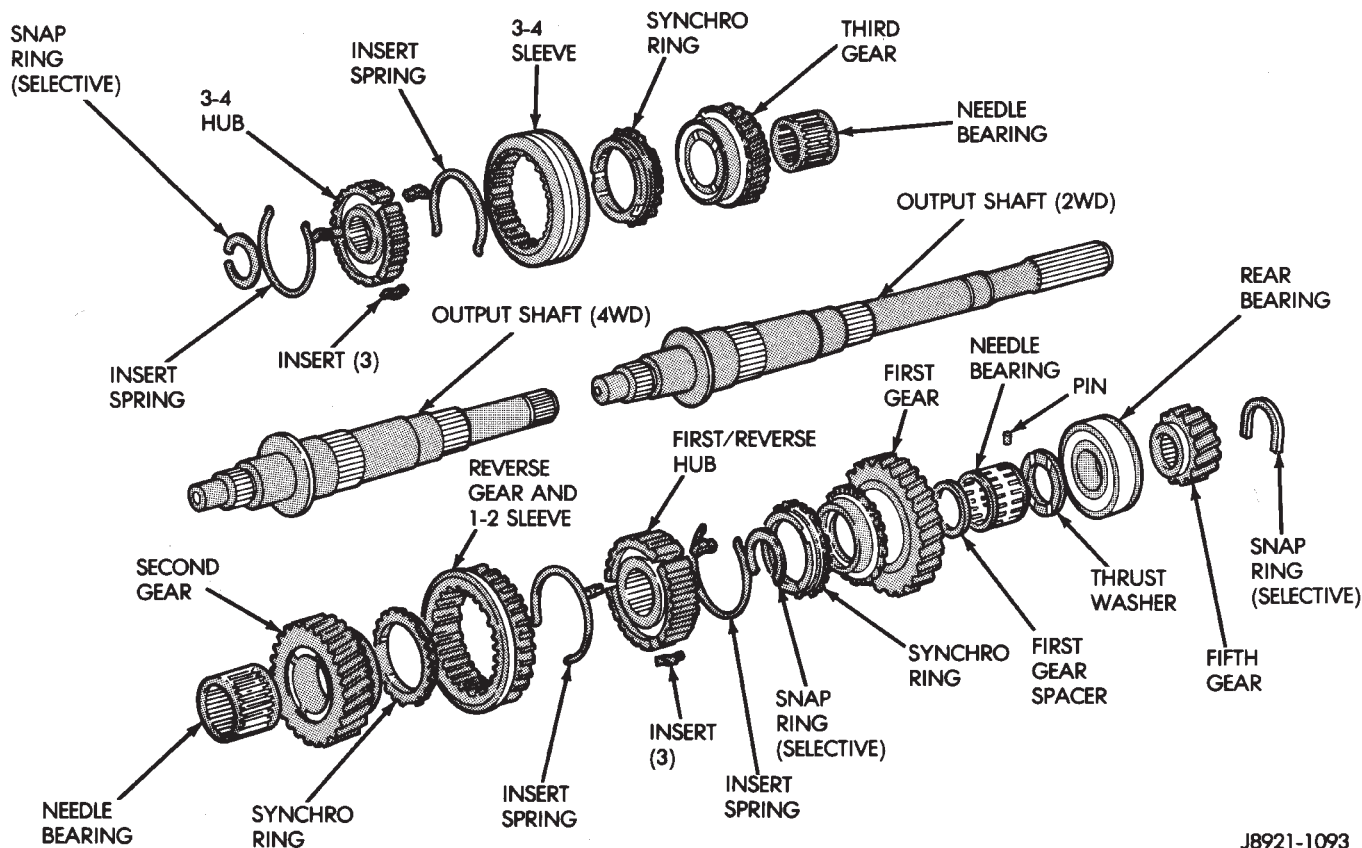

Fig. 63 Output Shaft And Gears
- (5) Remove first/reverse hub snap ring (Fig. 63).
- (6) Remove synchro ring.
- (7) Press reverse gear and first/reverse hub off shaft as assembly.
- (8) Remove remaining synchro ring and second gear and bearing (Fig. 63).
- (9) Remove snap ring at front of output shaft (Fig. 63).
(10) Press 3-4 hub and sleeve off output shaft as assembly (Fig. 63).
(11) Remove synchro ring.
(12) Remove third gear and needle bearing (Fig. 63).
(1) Lubricate output shaft journals, gears and needle bearings with Mopar 75W-90 gear lubricant.
(2) Install third gear and needle bearing on shaft (Fig. 63)
(3) Install synchro ring on third gear (Fig. 63).